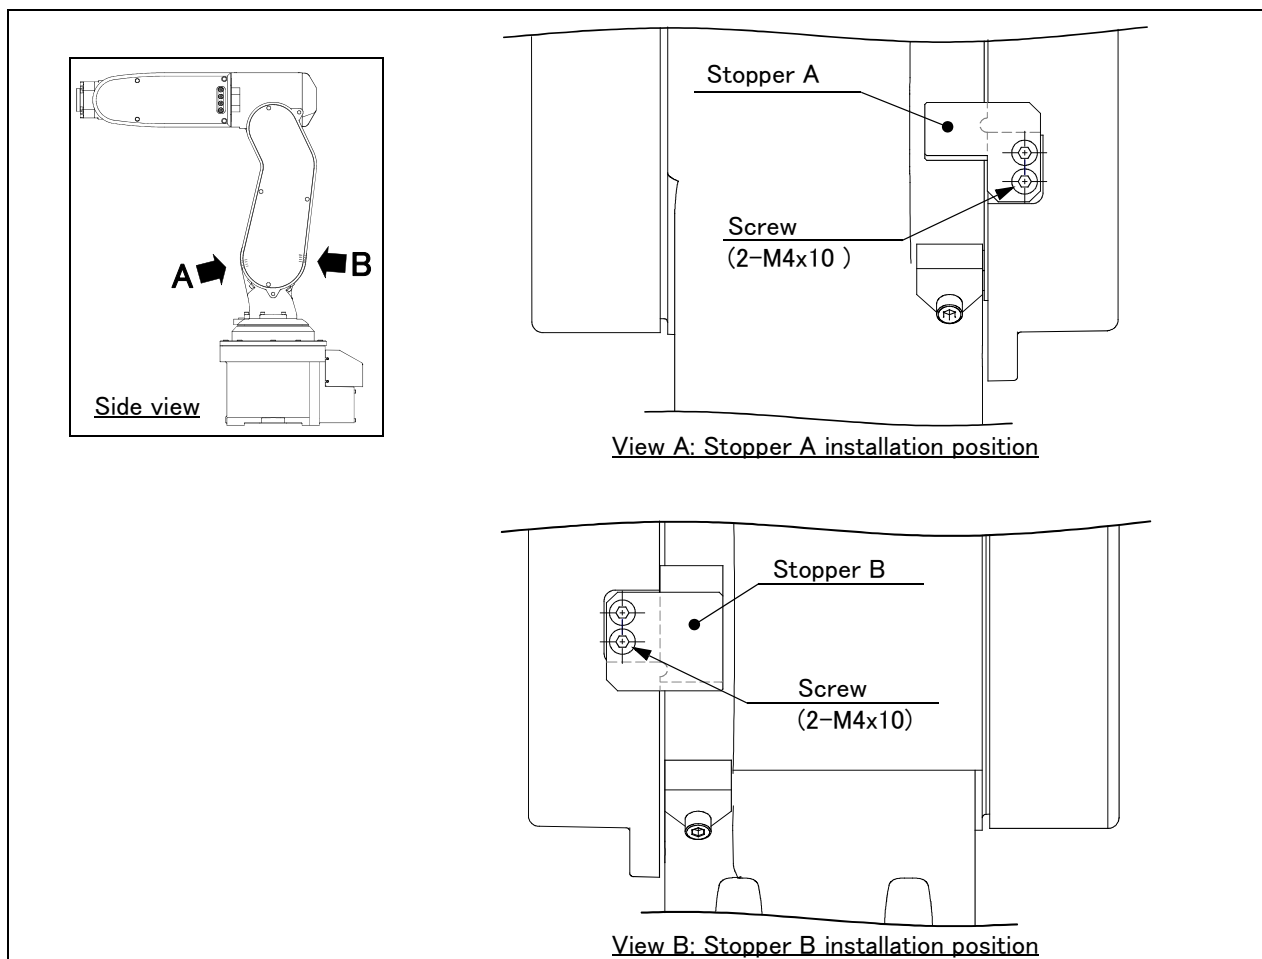

Fig.3-2 : Installation procedure of optional stoppers
The changeable angle of J2 axis is shown in Table 3-4. Refer to Table 3-4 to confirm the installation position of the stopper corresponding to the angle to change or setting value of a parameter. Refer to Fig. 3-2 for details of the installation position of the stoppers.
- 2) Refer to Fig. 3-2 and install the required stopper to the installation position. Tighten screws firmly to fix the stopper. (Tightening torque: 4.6 Nm)